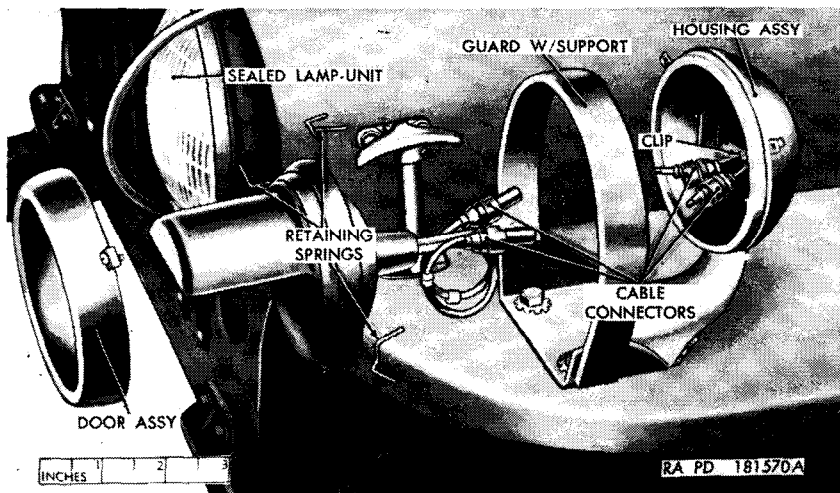

Figure 74. Blackout headlight assembly—partially exploded view.
*a. Blackout Headlight Sealed Lamp-Unit* (fig. 74).
- (1) *Removal.* Unscrew three screws securing the door assembly to the housing assembly, and pull the door and sealed lamp-unit from the housing assembly. Pull the cable connectors from the clips in the housing assembly and disconnect both cables. Remove three retaining springs securing the sealed lamp-unit in the door assembly and remove the unit.